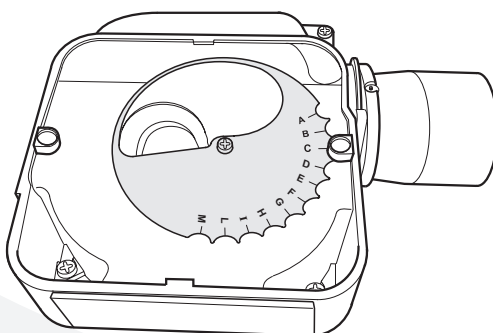

Figure 10-2: 15/21 air adjuster disc at position 'C'
To adjust the 15/21 air adjuster disc when downrating - See Figure 10-2
4. The secondary air shutter disc is factory set in position 'C' – i.e. with the cut-out marked C located against the die-cast boss on the fan housing - suitable for outputs of 18.3 and 21 kW only. See Figure 10-2.